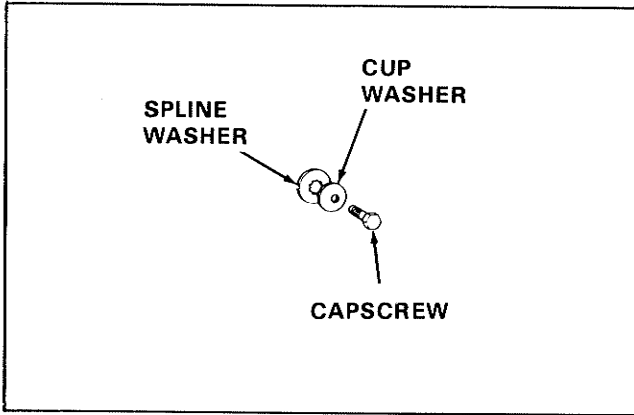

Figure 9. Blade Hardware
- Reinstall the blade(s) with the tabs pointing upward. Install the spline washer, cup washer, and capscrew (see figure 9). Be sure the splines on the spline washer are engaged with the shaft splines. Be sure cup washer is installed with the concave side up.